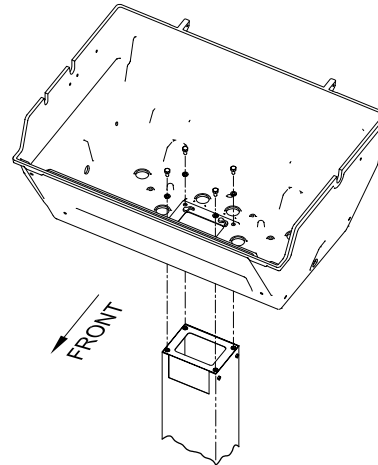

Figure 6
- Attach the grease cup bracket assembly to the bottom of the grill casting and fasten with #10-24 x 3/4" bolt, 9/32 ID x 5/8 OD washer, and #10-24 wing nut. See Figure 6.
- Place the grill bottom on top of the post and secure the grill bottom to the post by placing four 1/4-20 x 3/4 Hex Head screws and 1/4 x 5/8 Flat Washers in the threaded inserts that are in the upper bracket. See Figure 6.